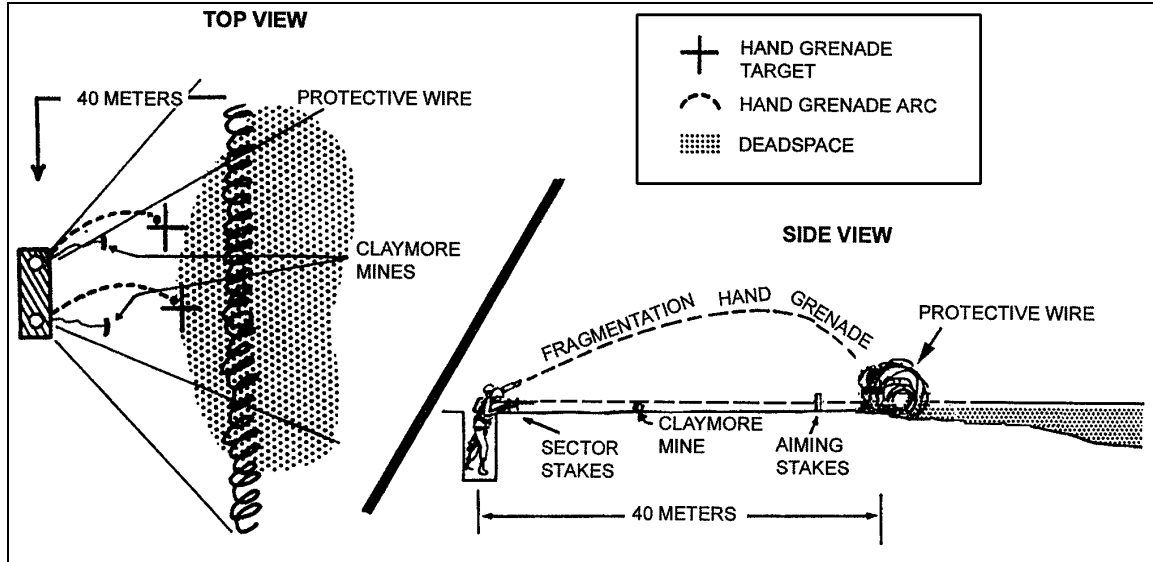

Figure 3-10. Defense from an individual fighting position.
a. **Defense From Individual Fighting Positions** (Figure 3-10). From individual fighting positions, fragmentation hand grenades are used primarily to cover close-in dead space approaches on the friendly side of the protective wire and in front of a squad's position. Soldiers should use these grenades in conjunction with ground flares positioned along the protective wire. Enemy soldiers who are stopped at the protective wire are engaged first with Claymore mines. If time permits during the preparation of the defensive position, soldiers should identify dead space in their sectors, especially dead space that may intersect the protective wire and move toward the friendly fighting positions. These potential avenues of approach through the protective wire should be marked with a reference to identify them as primary hand grenade targets. The following rules apply when employing fragmentation hand grenades from fighting positions:
(1) Clear overhead obstructions that may interfere with the path of the thrown grenade. Do this at the same time direct-fire fields of fire are cleared.
(2) Rehearse grenade employment; know where your primary target is located.
(3) Keep 50 percent of your fragmentation grenades at the ready in your fighting position, leaving the remaining fragmentation grenades on your load-carrying equipment (LCE).
(4) Rehearse actions needed if an enemy grenade lands in your fighting position.
(5) Employ fragmentation hand grenades against enemy soldiers located in defilade positions as first priority. This lessens the danger to friendly soldiers and helps cover terrain not covered by direct-fire weapons. Use the rifle to kill enemy soldiers not in defilade positions.
(6) Reconnoiter the alternate and supplementary positions and determine the priority for the fragmentation hand grenade target.
(7) Redistribute hand grenades after each enemy engagement.